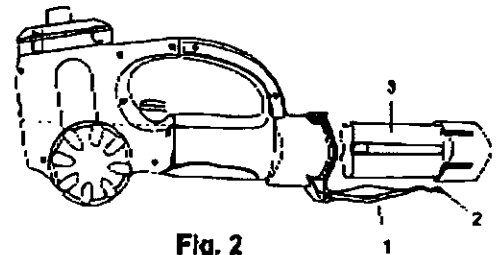

Fig. 2
1. Open the battery compartment cover (1) by pulling the battery compartment latch (2) outward (see Fig. 2).
**NOTE:** Make sure the battery key (3) and slot in the cavity match up, and that the battery slides all the way into the cavity.